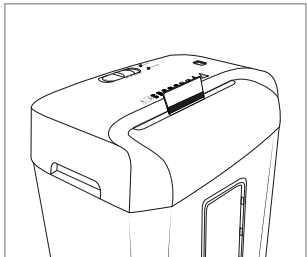

Fig. 3
- ◆ Insert the credit card from above into the middle of the cutter opening **8** (see fig. 3) and move the *REV/OFF/AUTO/FWD* switch **2** to the *FWD* ("forward") position. You can only shred one credit card at a time. Always insert the card into the cutter opening **8** with the wide side first. Otherwise, the magnetic strip will not be destroyed.